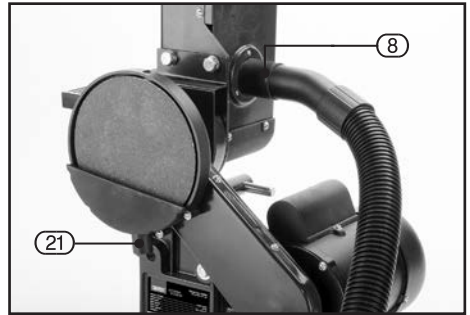

FIG.12
8.10 DUST EXTRACTION - FIG. 12